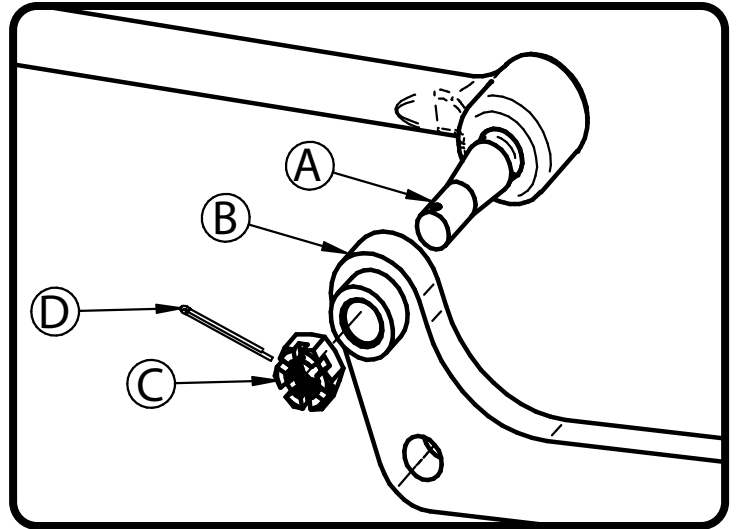

Figure 15
21. Insert the inner tie-rod end (A) into the drag link adapter (B). Install the castle nut (C) supplied with the tie-rod end onto the threads. Torque the castle nut to **35 ft-lbs**, tighten to align the cotter pin hole, and install the cotter pin (D). See Figure 15.